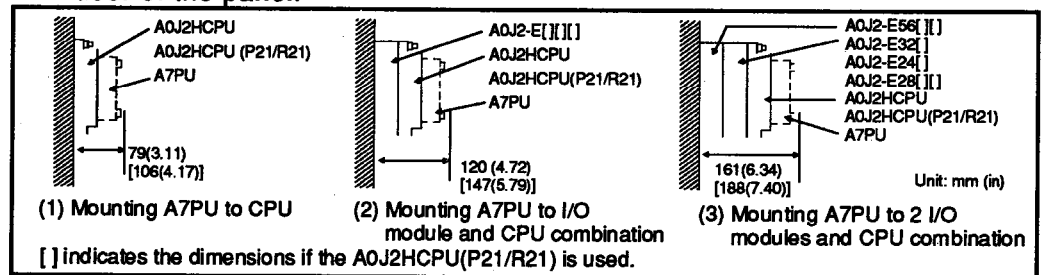
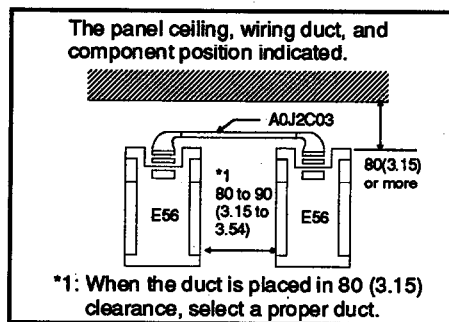

Fig. 7.1 Dimensions in Module-to-Module Mounting
Fig. 7.2 Side-to-Side Installation
However, if the dimensions from the top and bottom of the PC are less than those shown in Fig. 7.1, note the following points:
- (1) For the mounting hole positions of each module, refer to Appendix 3, Dimensional Outline Drawing.
- (2) Fig. 7.1 shows dimensions when the A7PU is mounted on the CPU module. For the dimensions of side-to-side and top-to-bottom arrangements, refer to Figs. 7.2 and 7.3, respectively.